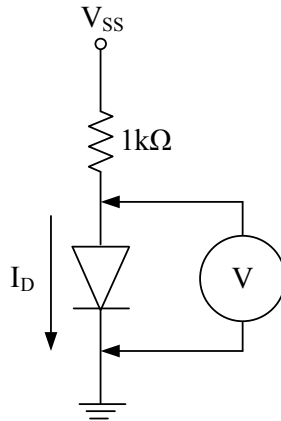

Figure 1 Circuit for plotting diode characteristic curves.
1. Plot the forward and reverse characteristics of diode. Use the circuit shown in Figure 1. For the voltage source V_{SS} shown in the figure, use the DC power supply in the lab station. Vary this source over the range $-20V < V_{SS} < 20V$. This will mean switching the power supply connection between positive and negative ranges. In order to obtain a 0 (zero) V, you might need to short V_{SS} to ground, but with the source completely removed, in order to obtain a zero point. Connect your measured points with a smooth curve. It is also convenient to use different vertical scales for positive and negative diode current; see the figure below for an example.
While changing V_{SS} , monitor the voltage across the diode and the current through it. It is probably easiest to use the multimeter in the lab as a voltmeter, and to measure the voltages across the diode and the 1[k Ω] resistor. The current can then be obtained by dividing the resistor voltage by the resistance. Figure 1 illustrates measurement of the diode voltage using the voltmeter. If you wanted especially accurate measurements you would compensate for the resistance of your meter. This will not be required, except as noted in the questions at the end of the experiment.